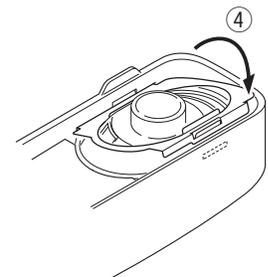

Fig. 7-3
1. Insert two tabs of the holder (J19-5485-12) into the hollows in the top of the panel. (①)
2. Push the two tabs of the holder in on the opposite side of those in step 1 above and fit them into the hollow in the bottom of the panel. (②)
3. Install the speaker holder onto the panel. (③)
6. Insert the hardware fixture (J21-8481-03) into the hollow of the panel as shown in Figure 7-3, then push two parts of the hardware fixture and fit it into the hollow of the top of the panel. (Fig. 7-3 ④)